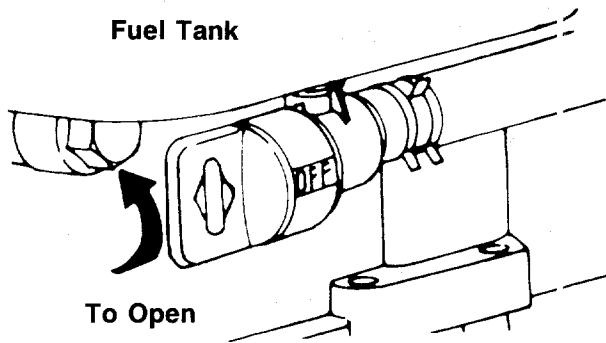

FIGURE 22.—Model 816R
- Model 816R:** The fuel shut-off valve is located beneath the fuel tank. The fuel shut-off valve should be in the open position. See figure 22. Open fuel shut-off valve if it is closed.